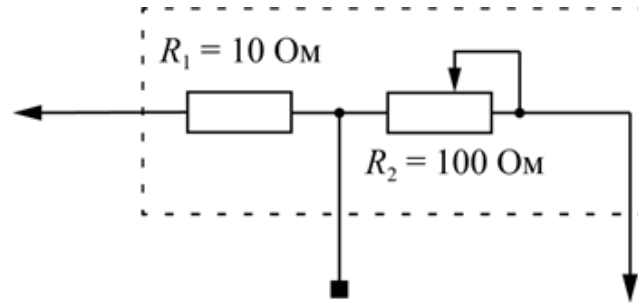

Figure 3: Figure 3.
1. 4.5V battery. 2. Voltage regulation and measurement unit with three terminals, the diagram of which is shown in Figure 3 (). 3. Connecting wires. (three - crocodile-crocodile, four - crocodile-plug). 4. Glass syringe with a metal piston and needle cone. 5. Multimeters (2 pcs.). 6. A glass with a three percent salt solution. 7. A bottle of clean water (for washing the syringe). 8. An empty glass for draining the used solution. 9. Ruler. 10. Napkins and a plastic plate to keep your work area clean. 11. Graph paper (2 sheets).